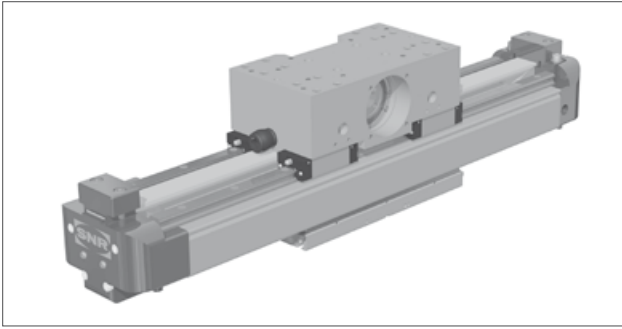

Figure 5.15 — AXS Telescopic Axis, horizontal with toothed belt / Ω - drive
- Telescopic Axis for horizontal and vertical use (Figures 5.15 up to 5.17)